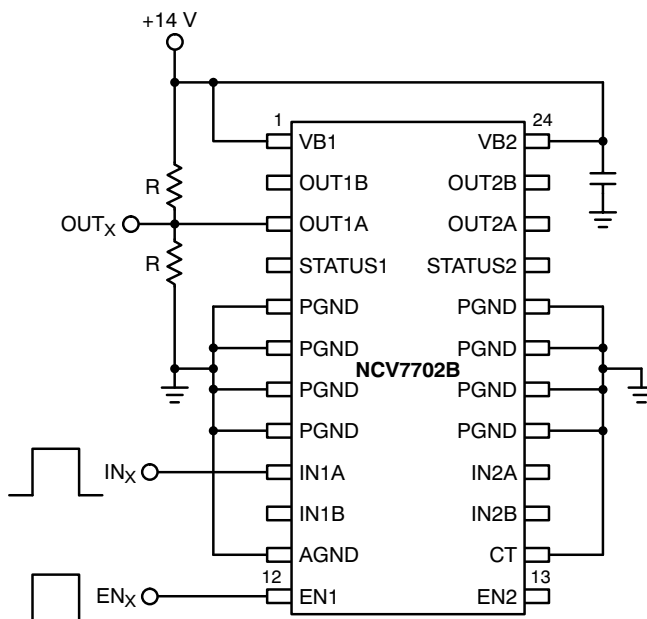

Figure 2. Propagation Delay and Dead Band Timing Test Circuit
4. See Figures 2 and 3; $V_B = 14\text{ V}$, $R = 100\ \Omega$.
6. See Figures 2 and 4; $V_B = 14\text{ V}$, $R = 100\ \Omega$.